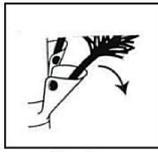
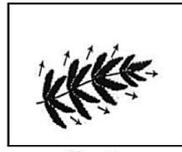
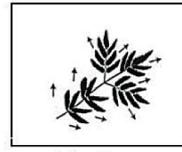

Fig.1
Fig.2
Fig.3
7. Begin to shape the branches from the bottom to the top. Start with tips farthest from the pole, one to the right, one to the left and one at the center of the main stem. (Fig.1, Fig.2 and Fig.3)